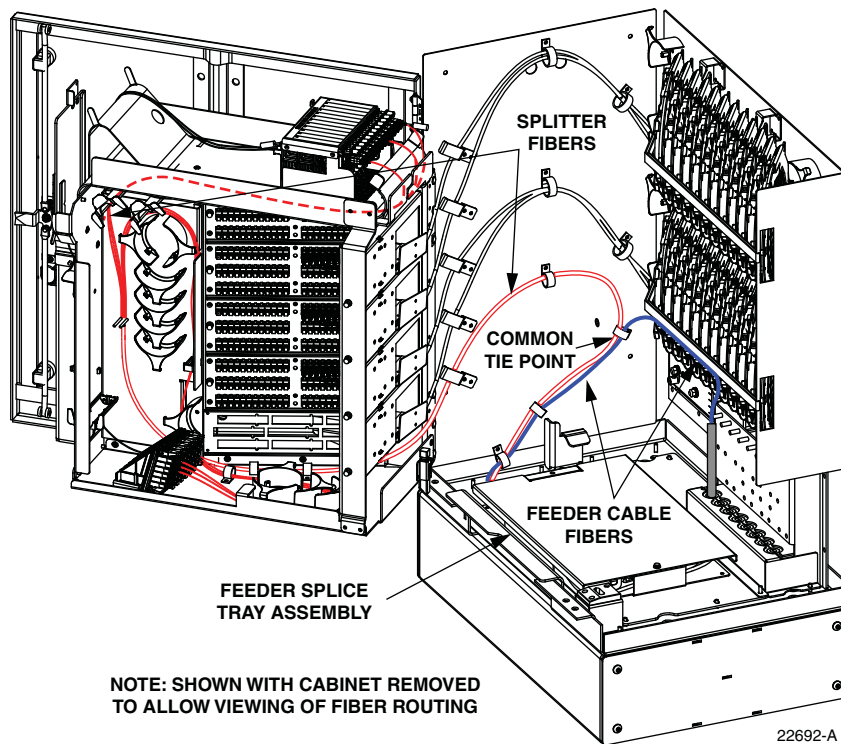

Figure 23. Feeder Splice Tray and Feeder/Splitter Fiber Routing
1. Locate the feeder splice tray which is mounted at the bottom of the cabinet, as shown in Figure 23, and locate the splitter input fibers which are routed to the feeder splice tray.